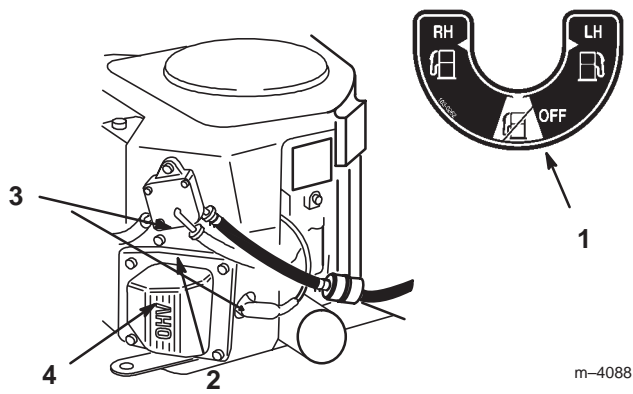

Figure 37
7. Install a new filter and move the hose clamps close to the filter (Fig. 37).
4. Close the fuel shut-off valve (Fig. 37).
5. Loosen the hose clamp at the fuel filter and slide it up the fuel line away from the fuel filter (Fig. 37).
6. Pull the fuel line off of the fuel filter (Fig. 37).
7. Open the fuel shut-off valve for the left and right tanks. Allow gasoline to drain into a gas can or drain pan (Fig. 37).
8. Install the fuel line onto the fuel filter. Slide the hose clamp close to the fuel filter to secure the fuel line (Fig. 37).